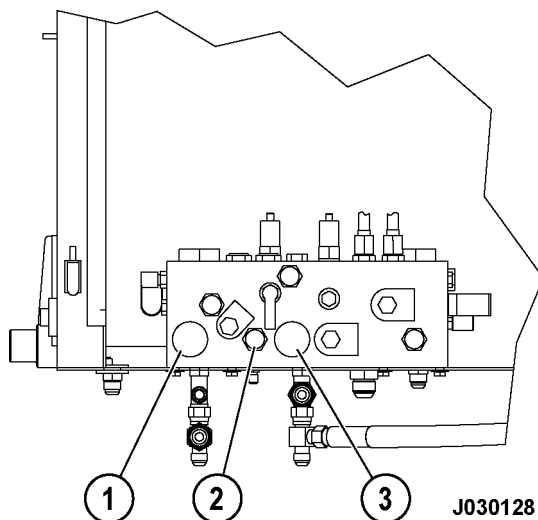

FIGURE 30-4. BRAKE MANIFOLD
2. Open bleed down valves (1, Figure 30-4) and (2) to depressurize the brake accumulators.